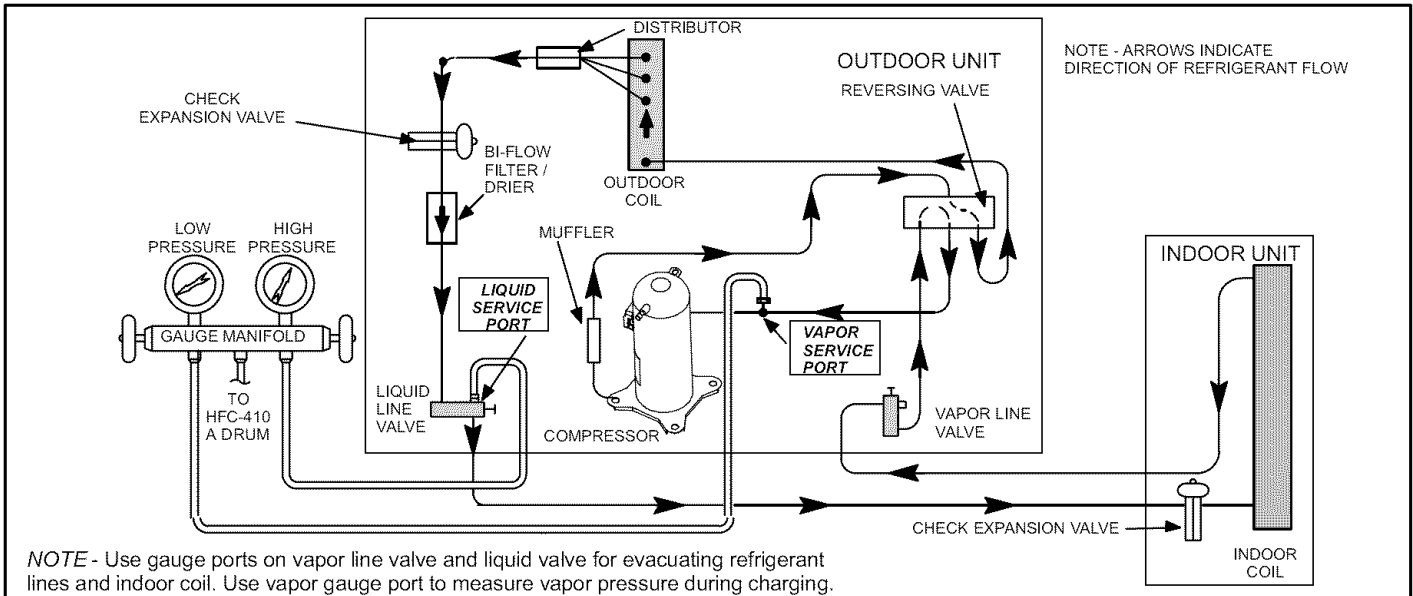

Figure 25. XP15 Cooling Cycle (Showing Gauge Manifold Connections)
2. Connect the manifold gauge set to the unit's service ports as illustrated in figure 25.